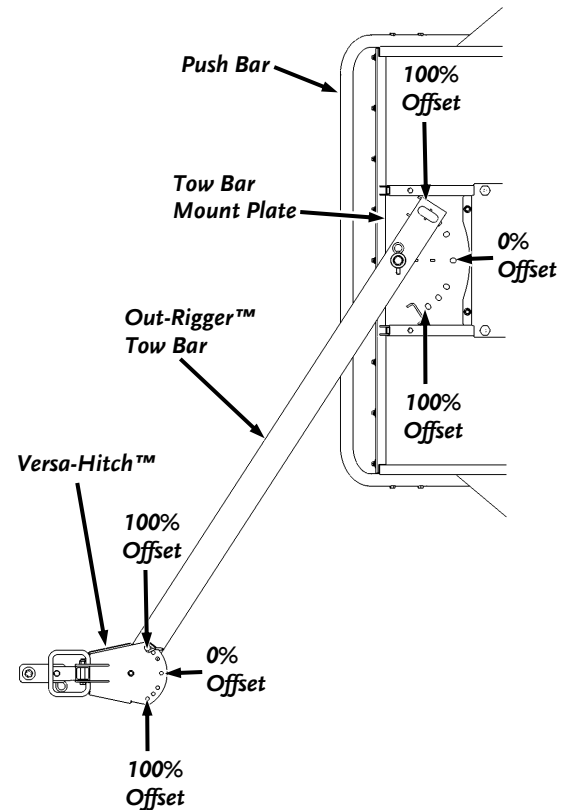

Figure 24
When performing offset mowing, always be sure that the Out-Rigger™ Tow Bar angle setting (**Figure 24**) and the Versa-Hitch™ angle setting match. This allows the tow-behind DR field and brush mower to track parallel to the tow vehicle.
3. Move the Mower, using the Push Bar, until you have approximately aligned the Tow Bar with the desired Offset angle (**Figure 24**).